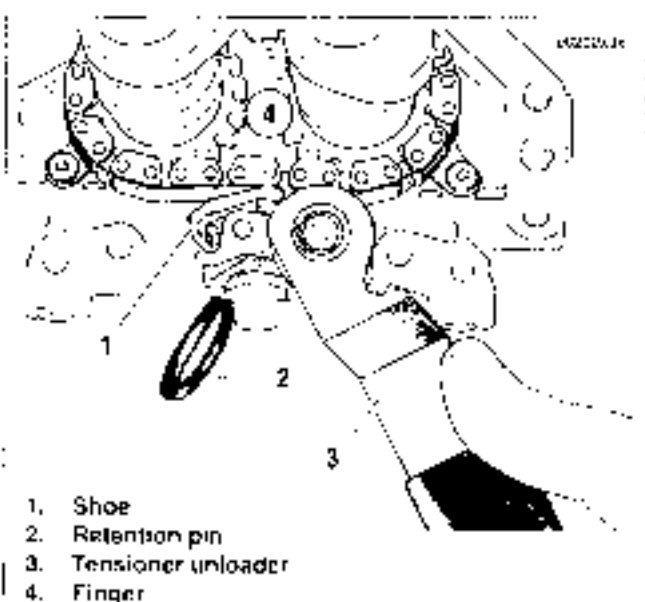

Figure 3-132. Retract Secondary Cam Chain Tensioner
1. See Figure 3-132. Place cup of CAM CHAIN TENSIONER UNLOADER (Part No. HD-42313) (3) over spring coil of secondary cam chain tensioner positioning finger (4) on tool between tensioner and shoe (1).
2. Rotate tool in a counterclockwise direction, inserting retention pin (2) through hole in boss on primary cam chain side of cam support plate. Pin engages hooks on tensioner to hold it in the retracted position. For best results, place cam support plate in a vice using brass jaw inserts to prevent casting damage.